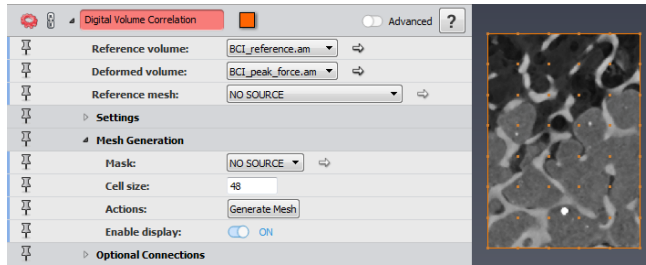

Figure 19.10: Generate a Tetrahedral Grid (yellow points represent the nodes of the mesh to create).
- Generate a tetrahedral grid using the *Mesh Generation* section. Set the *Cell size* to 48 and turn on the *Enable Display* port to see the nodes of the mesh (see Figure 19.10). Click *Generate Mesh* to create the mesh.